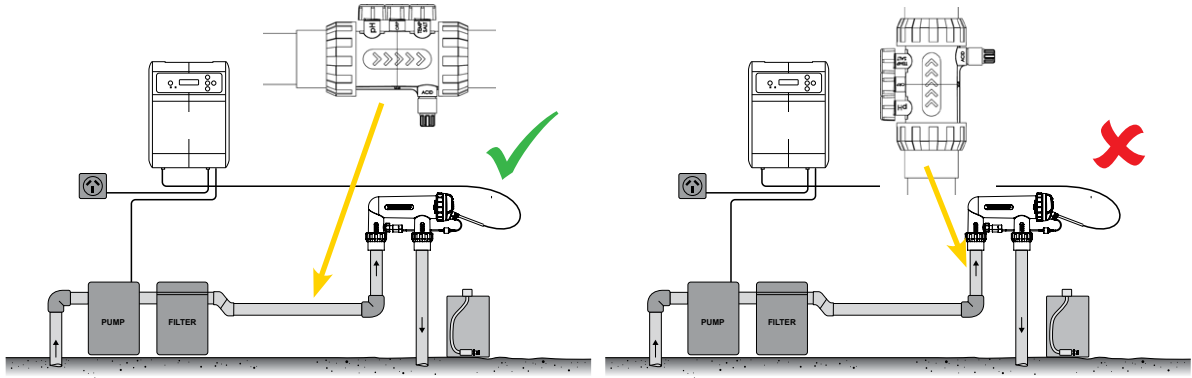

Figure 4.7
- The housing is installed horizontally (refer Figure 4.7)